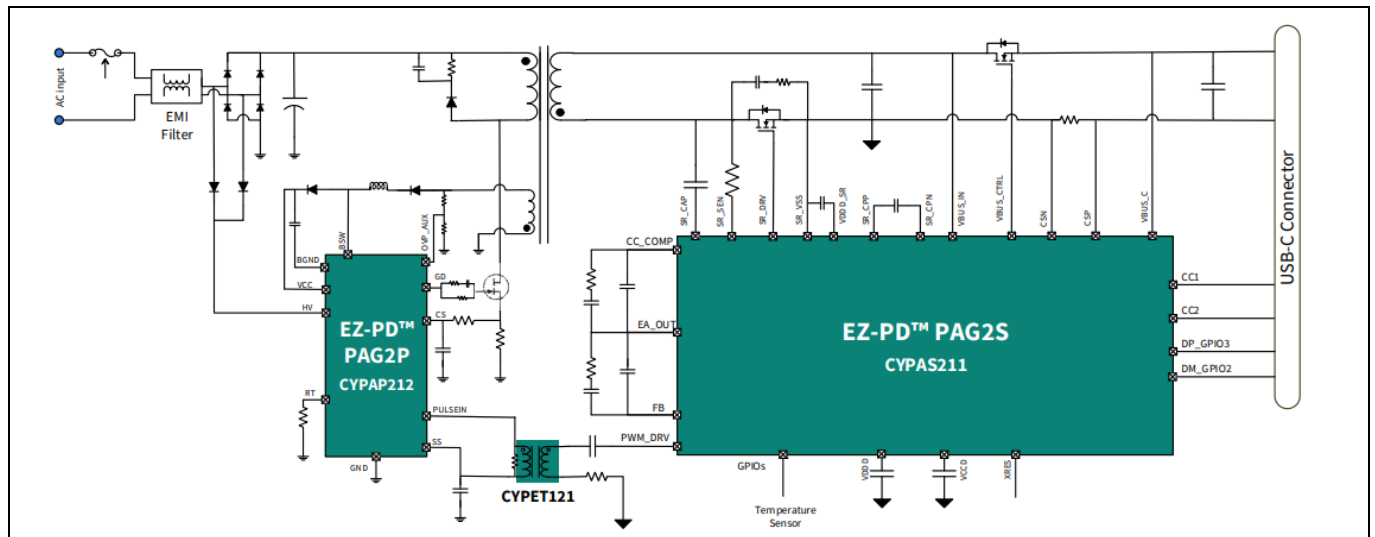

Figure 1 High-level block diagram of EZ-PD™ PAG2S-2P REF_65W_HFZVS_LP_PAG2 solution
Figure 1 shows the application diagram for a power adapter implementing a secondary side controlled synchronous flyback converter topology. PAG2S modulates the pulse width of the primary MOSFET in voltage control mode. PAG2S engages the internal error amplifier (EA) and a programmable ramp generator to determine the pulse width of PWM. The PWM signal is transferred from the secondary to the primary side through a pulse-edge transformer. In this topology, PAG2S integrates three key features: Secondary-side PWM control, charging protocol control, and fault protection. This approach of integrating the ZVS on the secondary side has the following advantage over the traditional primary-side control: